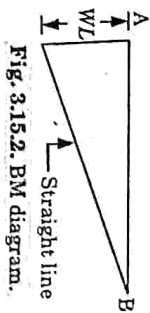

Fig. 3.15.2. BM diagram.
2. Bending moment diagram for cantilever is shown in Fig. 3.15.2.